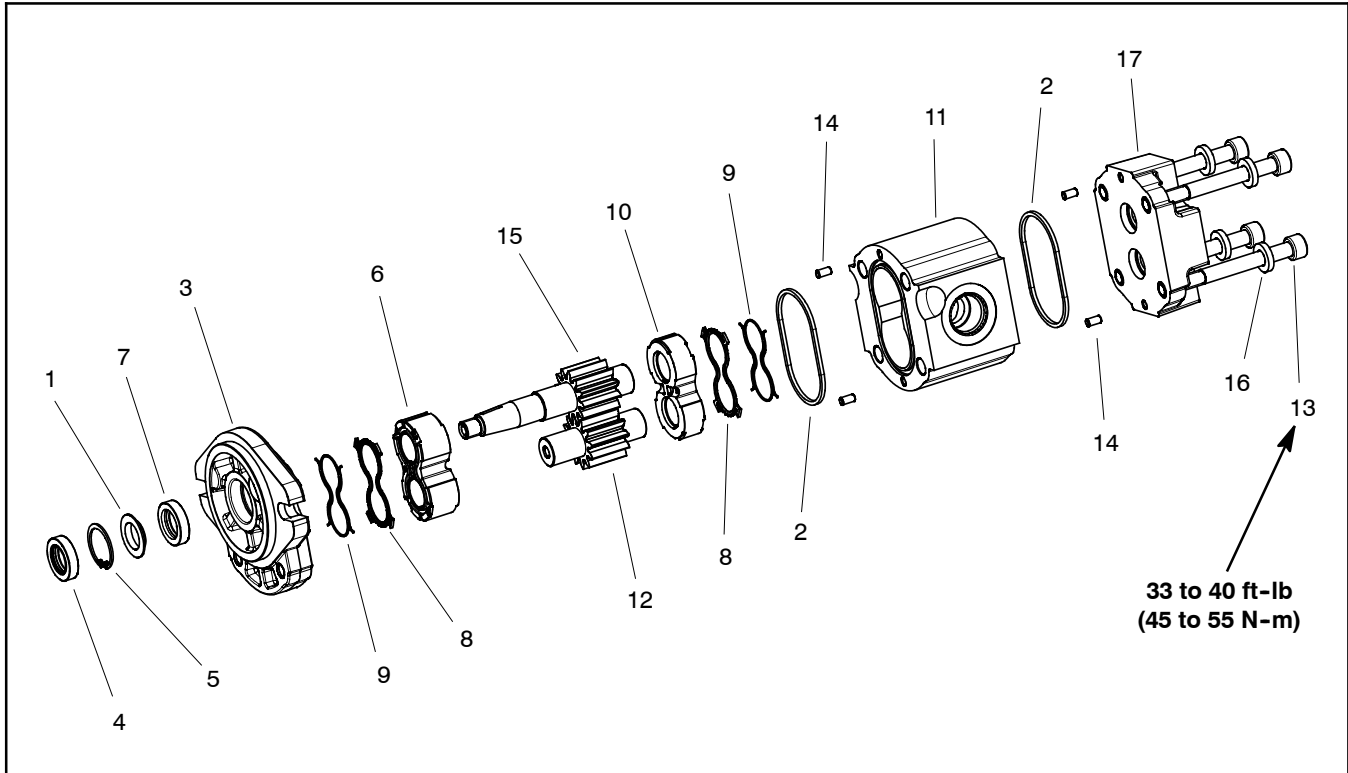

Figure 99
The Casappa cutting deck motors have similar construction as the cooling fan motor (also a Casappa brand) used on the Groundsmaster 4000-D and 4010-D. The deck motors have a separate rear cover (item 17 in Fig. 99) which is a difference from the cooling fan motor which includes the rear cover with the motor body. Orientation of the dust seal (item 4 in Fig. 99) is different in the deck motors than in the cooling fan motor.